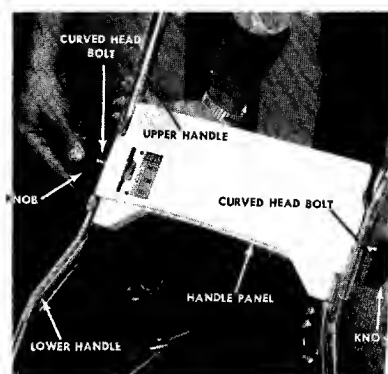

FIGURE 4. UPPER HANDLE ASSEMBLY
5. Place the upper handle over the lower handle and line up the holes as shown in figure 4.
6. Insert the curved head bolt from the inside and tighten the knob by hand. See figure 4.